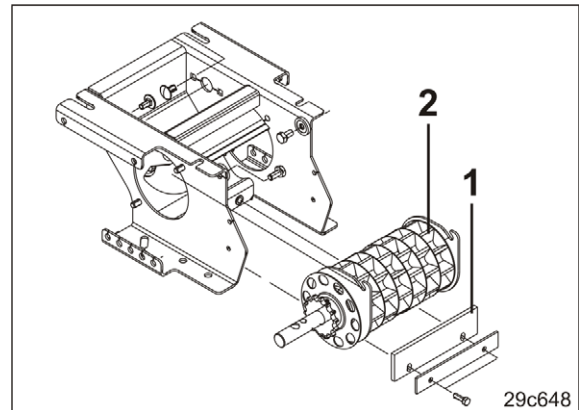

Fig. 201
- A defective or wrongly set dosing lip (Fig. 201/1) will cause dosing errors.
Set the dosing lip so that it is lying lightly up against the dosing roller (Fig. 201/2).